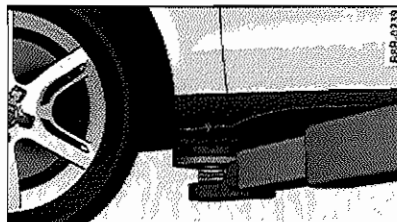
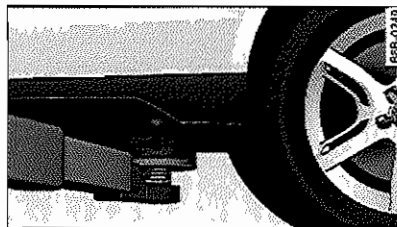

Fig. 246 Front lifting point
Fig. 247 Rear lifting point
- Locate lifting points ⇒ fig. 246 and ⇒ fig. 247.
The lifting point is located on the floor pan reinforcement about at the same level as the jack mounting point ⇒ *page 320*, fig. 246. **Do not lift the vehicle at the vertical sill reinforcement.**
The lifting point is located on the vertical reinforcement of the lower sill for the onboard jack ⇒ *page 320*, fig. 247.
- Always lift the vehicle only at the special workshop hoist and floor jack lift points illustrated ⇒ *page 320*, fig. 246 and ⇒ *page 320*, fig. 247.